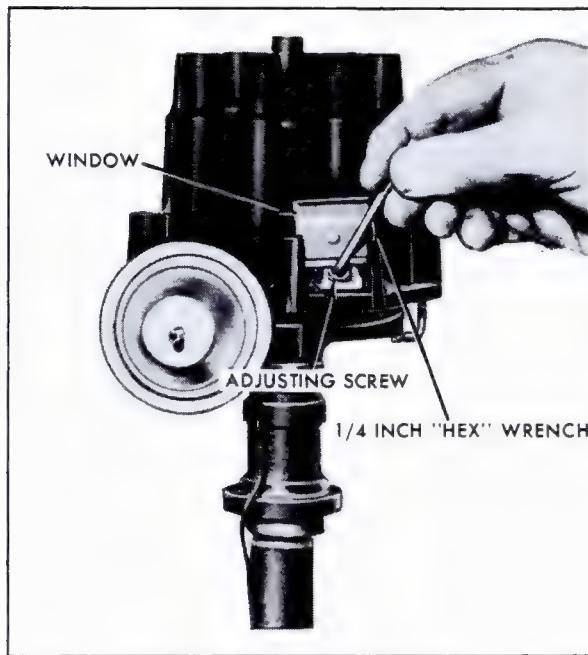

Fig. 6-53 Adjusting Distributor Points
of $\frac{1}{8}$ " Allen wrench into head of adjusting screw, Fig. 6-53.
1. Lift adjustment window and insert short end of $\frac{1}{8}$ " Allen wrench into head of adjusting screw, Fig. 6-53.